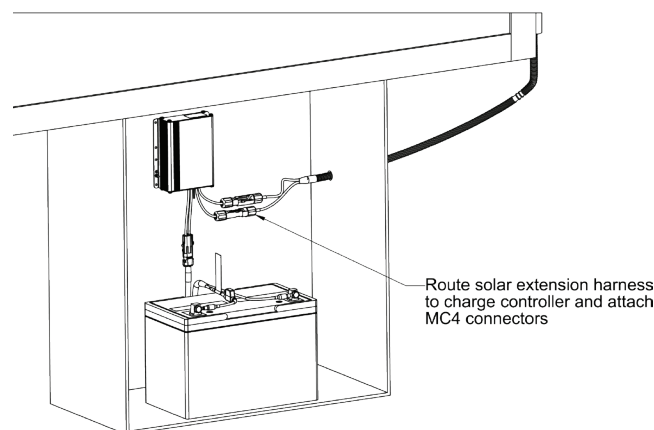

FIGURE 6
- Connect the battery harness to the charge controller using the Delphi connectors. Route the solar controller's positive and negative connections to the positive and negative terminals on the battery. Attach the black wire to the negative terminal on the battery and the red/white wire to the positive terminal on the battery. (Figure 6)